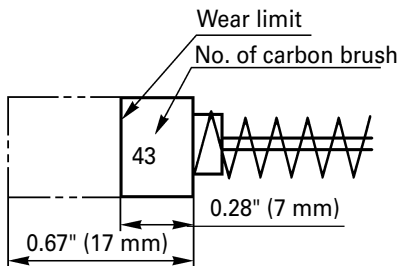

Fig. 17
4. Inspecting the carbon brushes: (Fig. 17)
Use metabo HPT carbon brush No. 43 indicated in Fig. 17